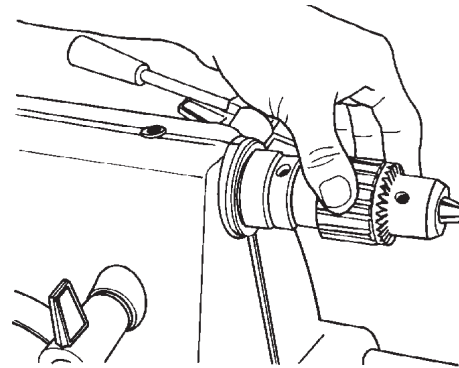
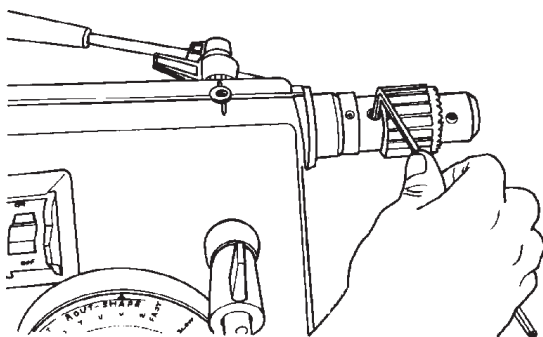

Figure C-72
Figure C-71
86. Mount the drill chuck on the spindle, as shown in Figure C-71. Completely close the chuck jaws, as in Figure C-72.